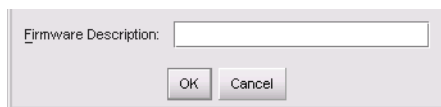

Figure 51: New Firmware Description dialog box
5. Choose the desired firmware version file (downloaded in step 1) from the on HAFM appliance backup drive, CD-ROM drive, or hard drive. Verify that the correct directory path and filename display in the **File name** field and click **Save**. The New Firmware Description dialog box displays (Figure 51).